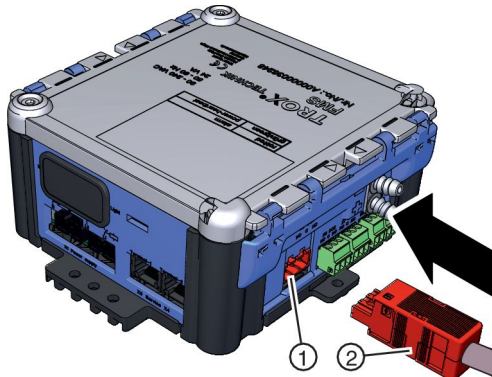

Fig. 15: Plugging EM-VENT
3. ▶ Plug expansion module EM-VENT (Fig. 15/1) into digital output DO-1 (Fig. 15/2).